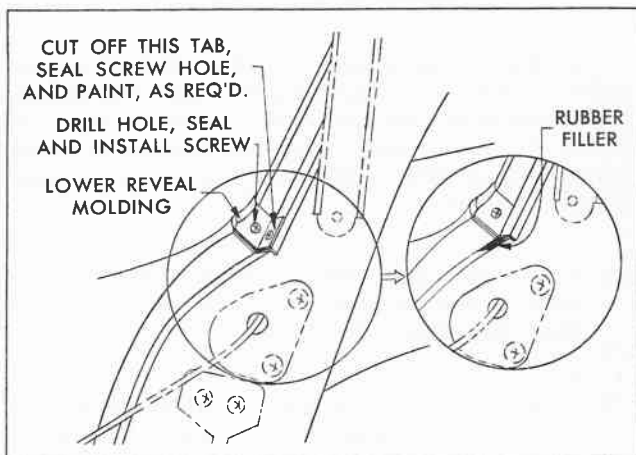

Fig. 8 View A in Fig. 5
- a. As indicated in View "A", Fig. 8, cut tab from rear quarter window lower rear reveal molding. Seal original screw hole with caulking compound and paint area previously covered by tab, as required. Then drill hole, seal and install screw to secure molding to back body pillar rabbet side facing.
- b. If necessary, install a flat, tapered rubber filler beneath the edge of the rear quarter window rear reveal molding, as shown in View "A", Fig. 8, to provide a smooth sealing surface.